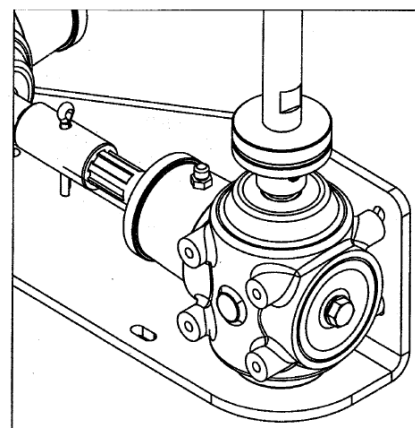

Fig. 32
- Refit the agitators without the discs (Fig. 32);